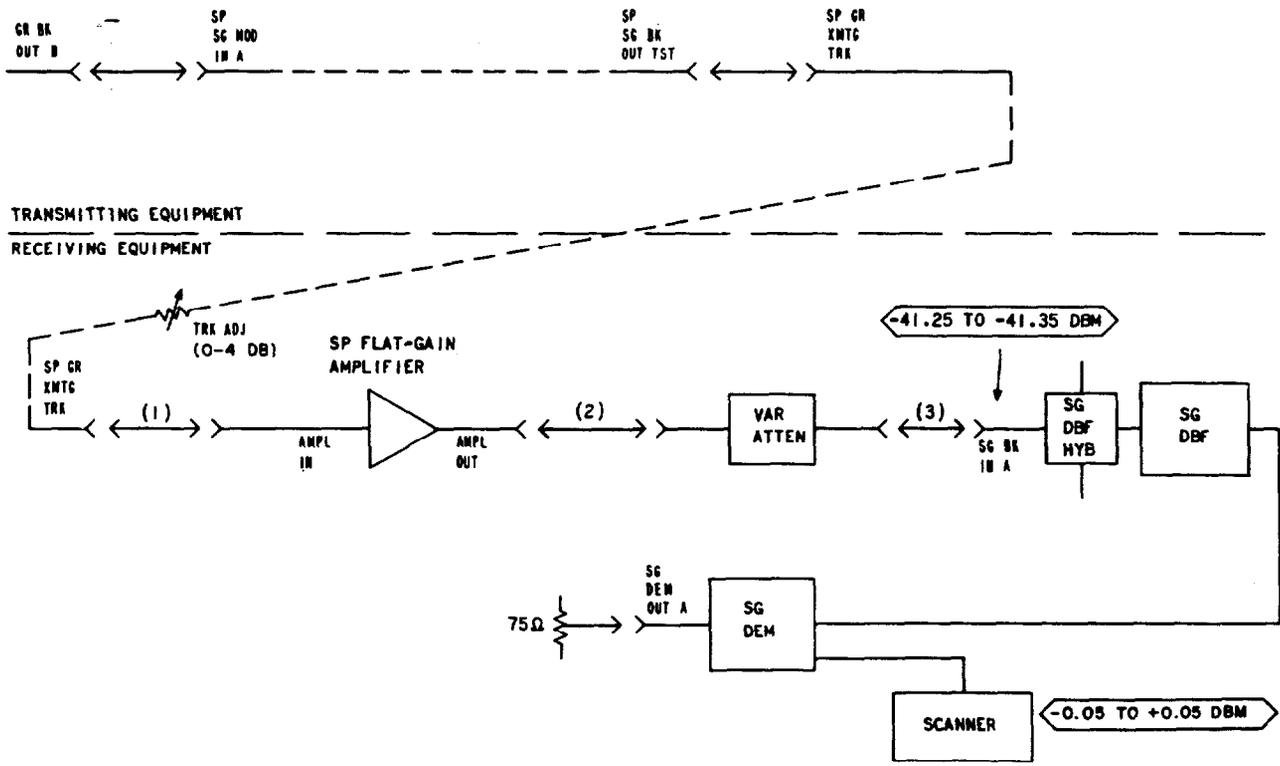

Fig. 2—Regulated Amplifier Test Connections
7	Patch the attenuator output jack to the SG BK IN A jack [patch (3), Fig. 2].
18	<p>Remove the pilot by removing the test connection between the GR BK OUT B jack and the SP SG MOD IN A jack (Fig. 2).</p> <p>Requirement: The loss of pilot ALM lamp (on the supergroup amplifier under test only) lights.</p>